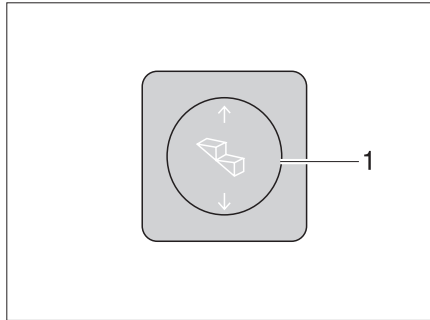

Fig. 5 Operating switch entrance step
- Press the rocker switch (Fig. 5,1) down until the entrance step has extended completely.
- Press the rocker switch (Fig. 5,1) up until the entrance step has retracted completely.